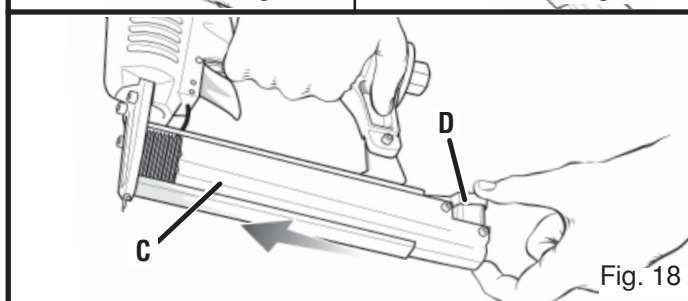
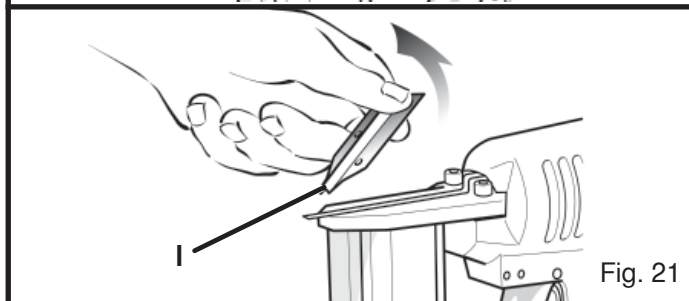

Fig. 18
Fig. 21
- 6) Slide the outer part of cartridge (C) upwards, pressing lever (D) at the same time (Fig. 18).
- 6) Remove cover (I) of the nailer/stapler (Fig. 21).
- 8) Replace cover (I) of the nailer/stapler.
- 9) Using a suitable Allen wrench (G), refasten screws (M) - (N) and (O) to cover (I).
- 10) Slide the outer part of cartridge (C) upwards, pressing lever (D) at the same time (Fig. 18).